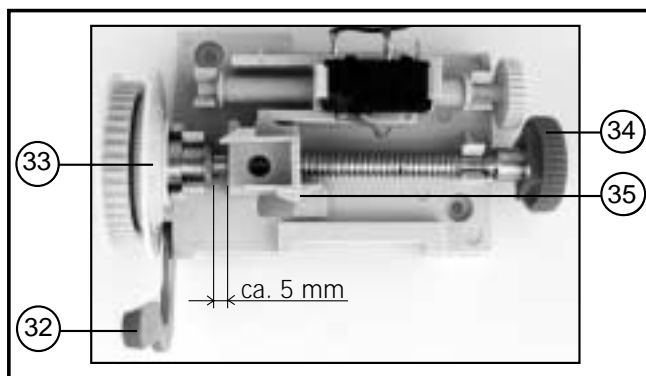

Fig. 6: Setting the reference point (door is closed)
- Unlock the switching spindle by moving the red no-load lever (32) to the front and by pushing the inner door link disk (33) in direction of spindle (see fig. 6).
- Turn the knurled wheel (34) clockwise until the carriage (35) is approx. 5 mm before the chamfered end of the switching spindle (see fig. 6).